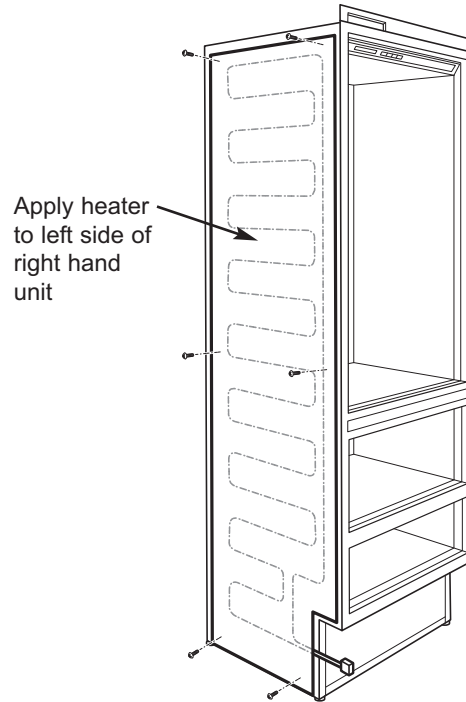

Figure 2-6. Dual Unit Heater Installation
- If two Tall units are installed side by side and are 2" or less apart, part #7007529 (aka TTDUAL) should be utilized. (See Figure 2-6)